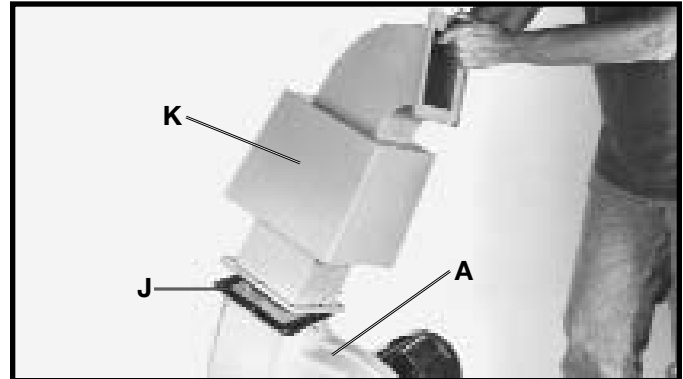

Fig. 9
6. Align mounting holes in chute (K) Fig. 9, with holes in gasket (J), which was assembled in STEP 5. Place a 5/16" lockwasher onto a 5/16-18x5/8" hex head screw, insert screw through the chute and gasket, thread the screw into the motor assembly, and tighten securely. Repeat this process for the 9 remaining holes.